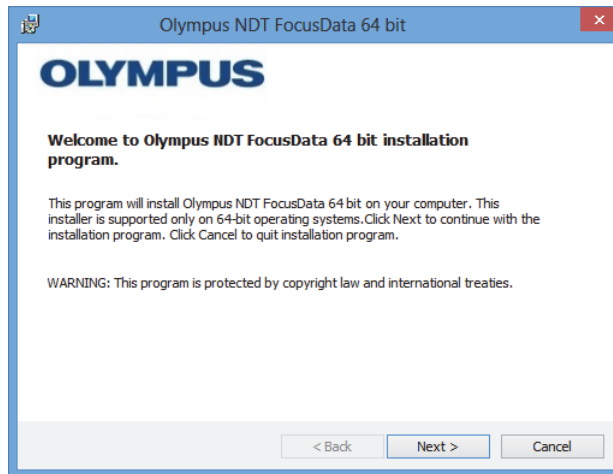

Figure 1-5 The Welcome page
4. On the **Welcome** page of the installation wizard, click **Next** (see Figure 1-5 on page 15).